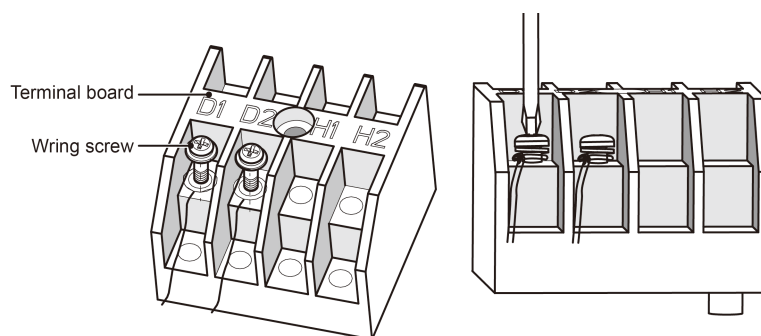

Fig.4.21
- (1) Detach the electric box lid of Hydro Box.
- (2) Let the Communication cable pass through the wiring through-holes.
- (3) Connect the communication wire to terminal D1 and D2 of Hydro Box 4-bit wiring board, as shown in Fig.4.21.
- (4) Fix the communication cable with clamp of electric box.